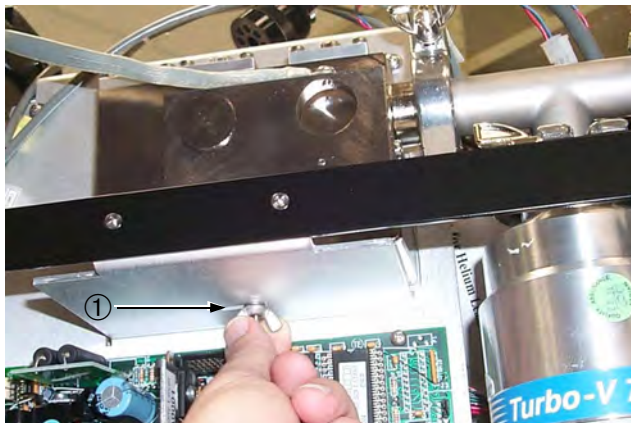

Figure 4-4 Wing Nut
6. Remove the wing nut ① located underneath the shelf below the spectrometer tube (Figure 4-4).